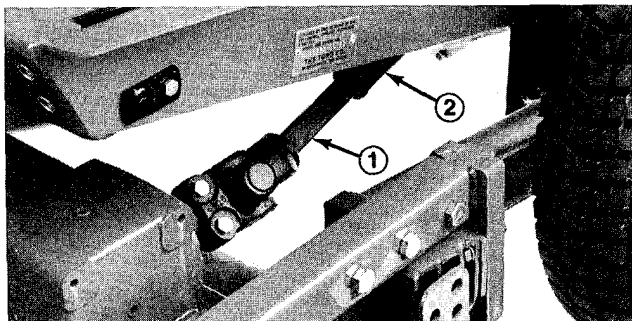

Figure 24
5. Stop engine and slide cutting unit away from traction unit and carrier frame, separating male and female sections of PTO shaft (Fig. 24).